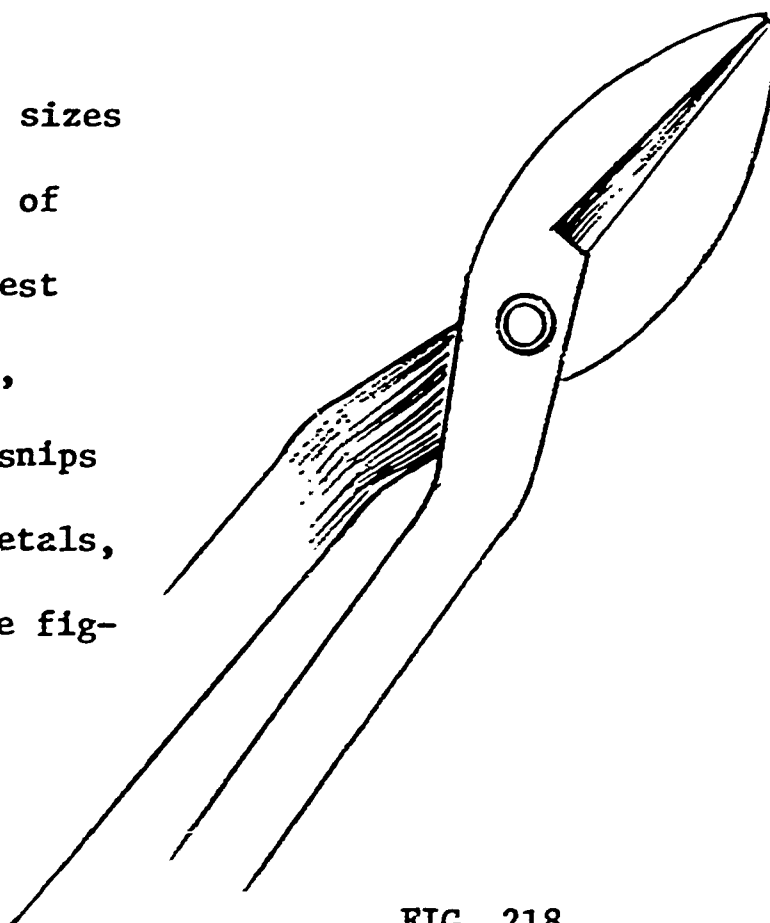

FIG. 218
9. Tin snips come in a variety of sizes and shapes depending upon the type of specialized work attempted. The best all around snip is the combination, approximately 8 to 10" long. Tin snips are used for cutting light gauge metals, metal straps, heavy wire, etc. See figure 218.